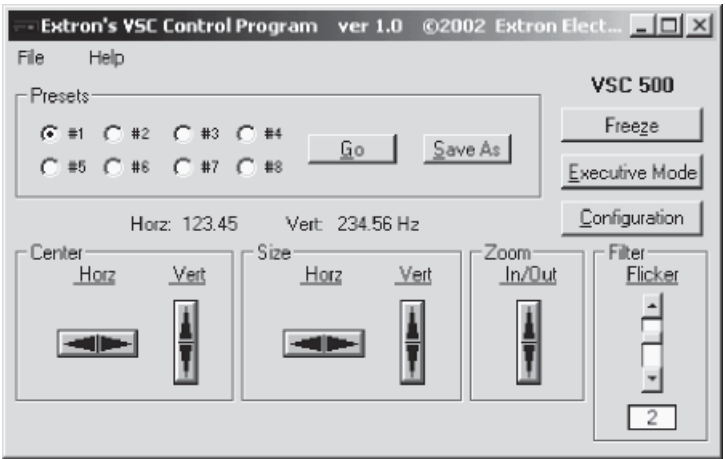
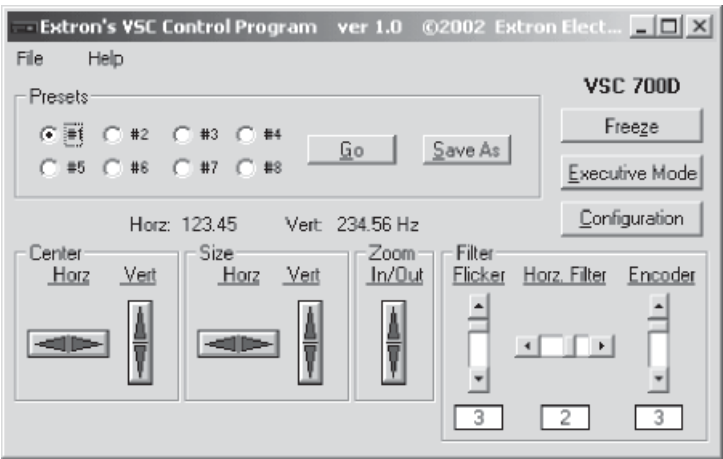

Figure 3-1 — VSC 500 Control Program window
Figure 3-2 — VSC 700D Control Program window
2. Click on the comm port that is connected to the VSC's RS-232 port. The Extron VSC Control Program window appears. The VSC 500 Control Program window is shown in figure 3-1 and the VSC 700D Control Program window is shown in figure 3-2.